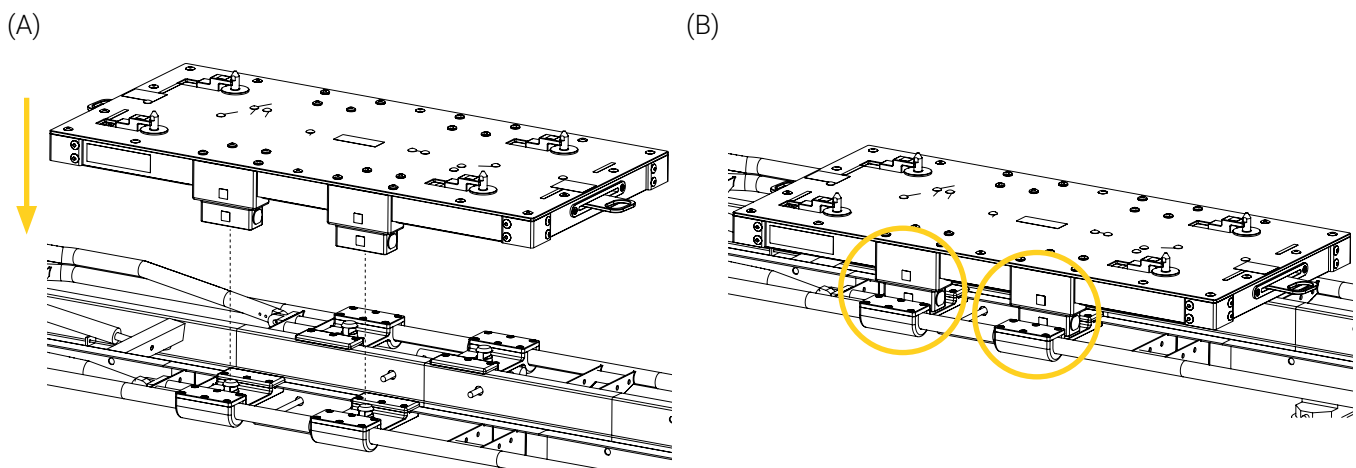

Figure 6: Installing the Neonatal Transport Incubator Platform on the stretcher
3. Lift the mounting solution at the extremities, then aligning with the clamp bocks, set the platform on the stretcher (Figure 6). Refer to the « 2.3. Safety Measures » on page 12 for the safe lifting technique requirements.
4. Lift the mounting solution at the extremities and remove it from the stretcher (Figure 6). Refer to the « 2.3. Safety Measures » on page 12 for the safe lifting technique requirements.